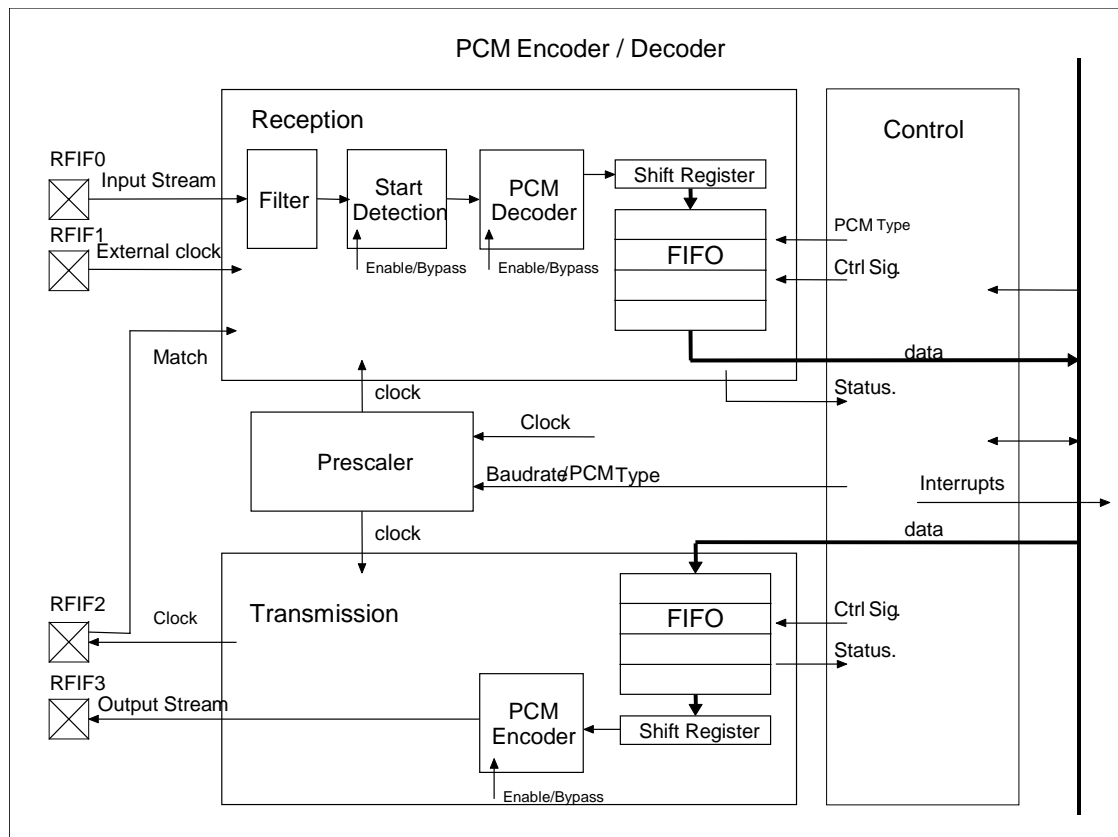

Figure 14-1 : PCM Encoder / Decoder Structure
- The “Start Detection” block. This block detects a programmable start sequence and therefore synchronizes at the message start. The interface ignores incoming messages until the start sequence is detected. This block can be bypassed or an external message synchronization signal can be used (match in Figure 14-1).